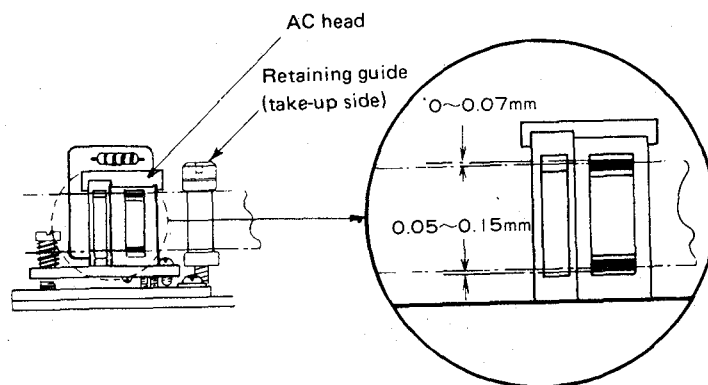

Figure 62.
3. See that the AC head is positioned as shown in Fig. 62, with respect to the running tape, say, the height and the tilt of the head shall be as specified.
5. The AC head shall be positioned with its height as shown in Fig. 62, with respect to the tape while in motion.